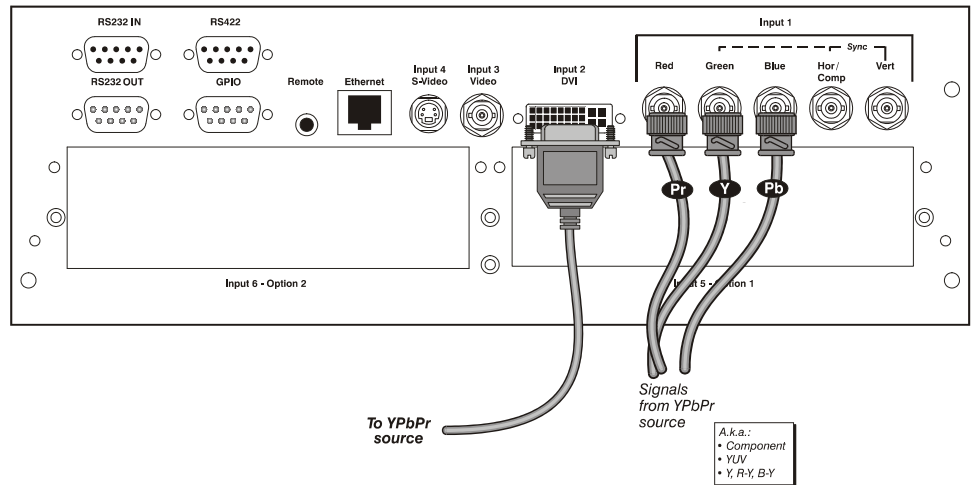

Figure 2.8. Connecting YPbPr sources
▶ Connect an YPbPr signal (*component video*) to **INPUT 1** or **INPUT 2** as shown in Figure 2.8.